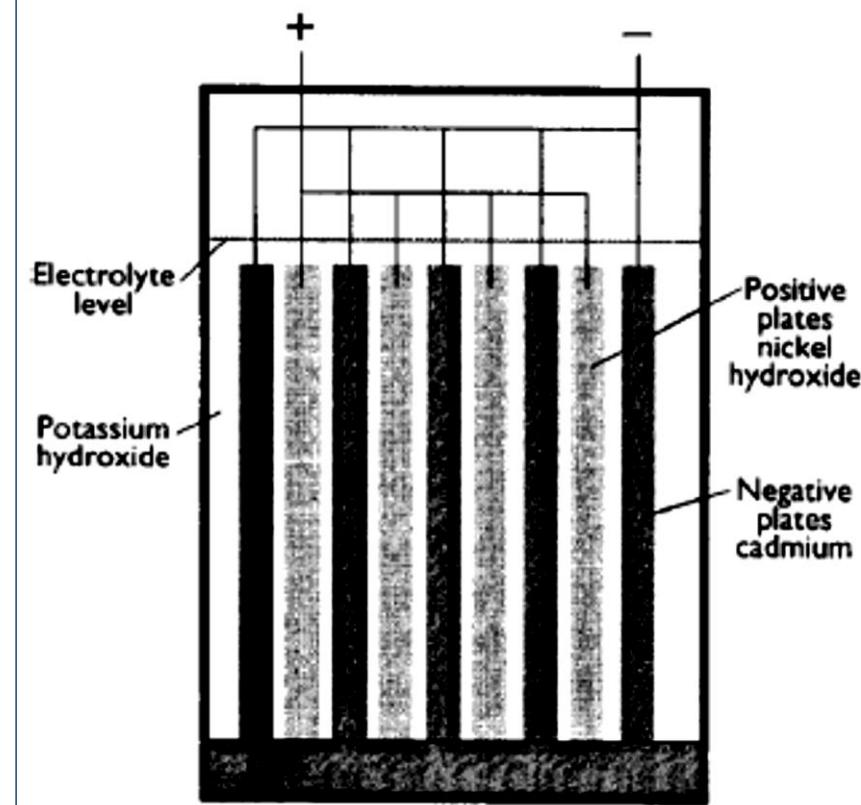

Figure 5.10 Simplified representation of a Nicad alkaline battery cell
- The  $2\text{H}_2\text{O}$  is actually given off as hydrogen (H) and oxygen ( $\text{O}_2$ ) as gassing takes place all the time during charge.
- The cell is discharged at a cell voltage of 1.1V. Figure 5.10 shows a simplified representation of a Nicad battery cell.